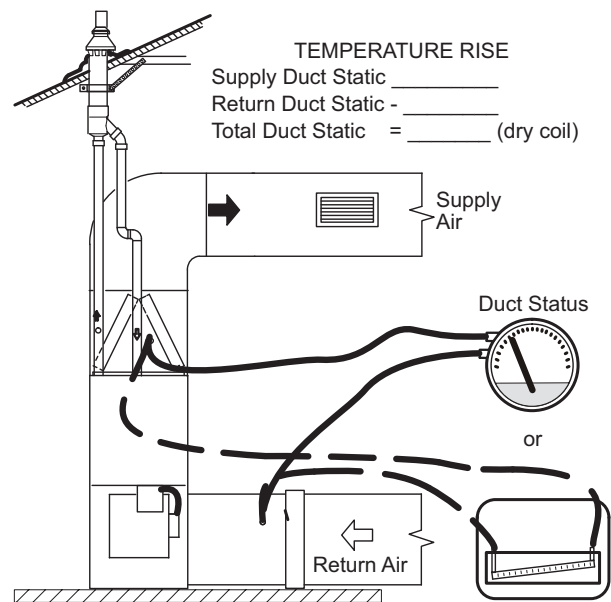

Figure 28.
1. Tap locations shown in **Figure 28**.